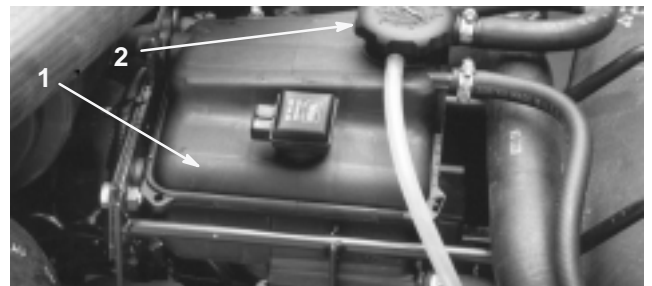

Figure 2
2. Check coolant level. **Coolant level should be up to or above mounting tabs on degasser tank, when engine is cold (Fig. 2).**
3. If coolant is low, remove degasser tank cap (Fig. 2) and add a 50/50 mixture of water and Peugeot recommended anti-freeze (Toro Part No. 93-7213). **Do not use water only or alcohol/methanol base coolants.**